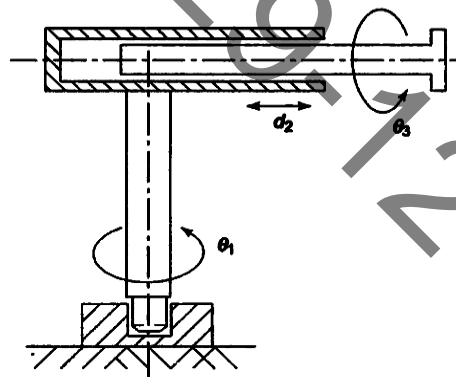

Figure 1 A 3-DOF RPR-configuration manipulator
3. For a 3-DOF manipulator arm shown in figure 1 assign frames and obtain the joint link Parameters. Also determine the forward kinematic model of tool tip with respect to Base. [15]